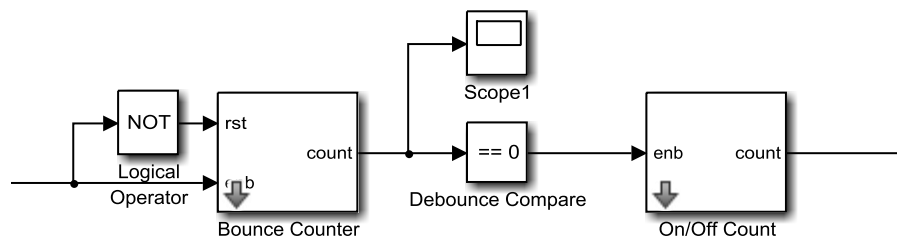

Figure 5 Debounce and turn on / off by push button
2. Configure the compare to constant block at the output of the first counter so that it yields true after the button is pushed. The comparison value in the Debounce Compare in Figure 5 will to be changed to wait 250ms. Recall that the HDL counter is running at 50 MHz. **You will need to change the value (currently 0 in the figure) to the value you compute.** Show your calculations in your report.